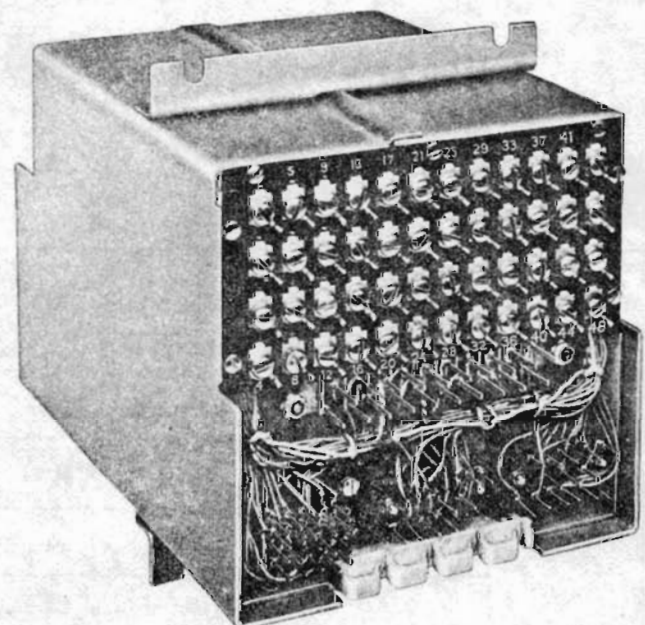

Fig. 2 - 24V4B Repeater, Rear View
2.01 Forty-eight terminals are brought out at the rear of the mounting and secured to a terminal board (TB1) as shown in Fig. 2. These terminals are used for setting up the required circuit arrangements as explained in 2.02.